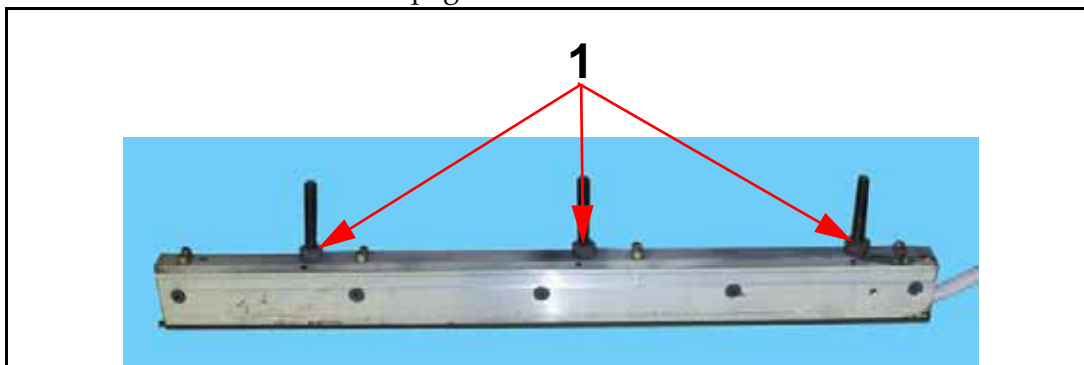

Figure 7-46. Seal Bar Spacers
- 10 Install spacers (1 in Figure 7-46) on bar.